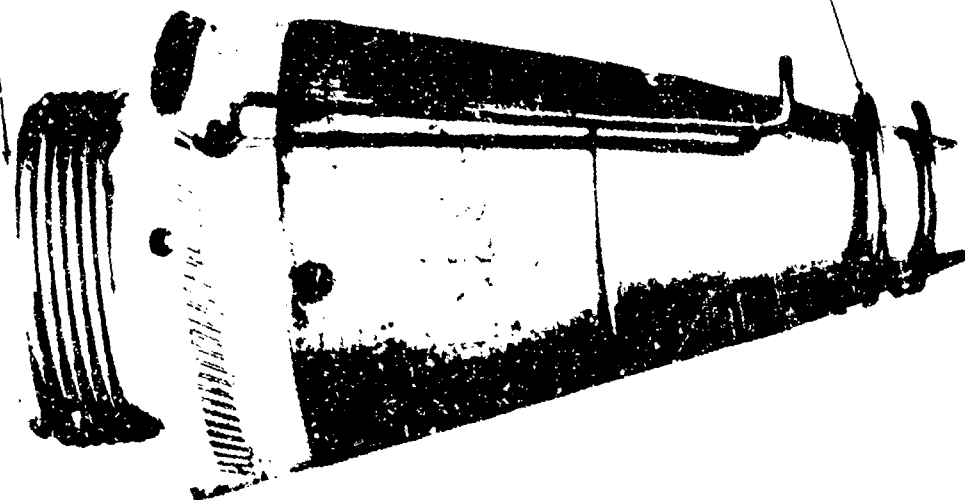

Figure 11-16. Fuze M501 mechanical time superquick.
c. *M501 MTSQ fuze.* The M501 MTSQ fuze (fig 11-16) is still required for the base-ejection projectiles with the small fuze opening in the nose of the shell. You can recognize these old base-ejection smoke and illuminating rounds very easily. The smoke rounds are painted gray with yellow markings; the illuminating rounds are painted gray with white markings.